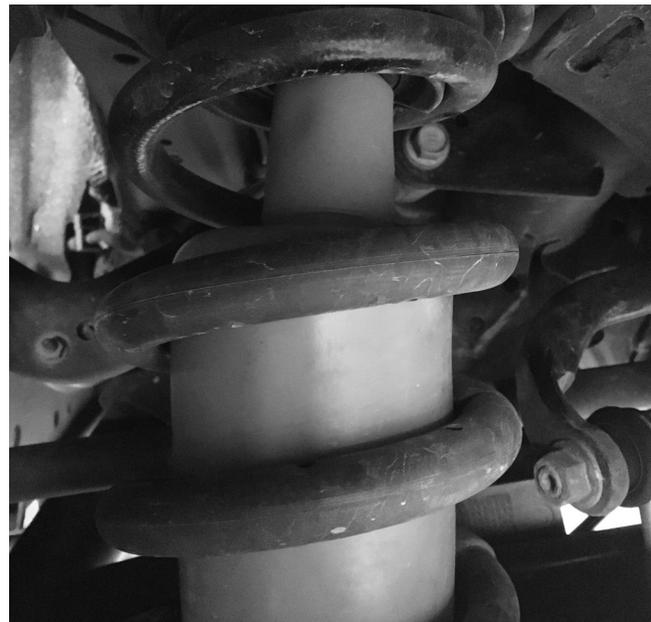

Fig. 11
9. Installation complete. When lowering the vehicle, ensure the upper protector stays on the threaded stud (Fig. 11).